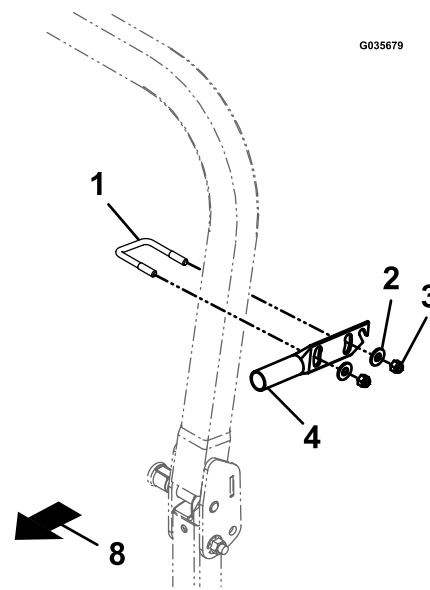

Figure 5
- A. Loosely install the U-bolts, washers, and nuts as shown in Figure 5.